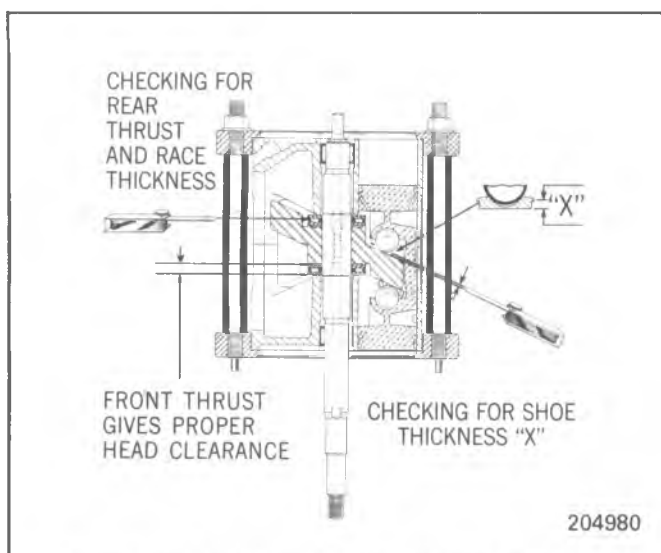

Fig. 1D-44 Checking A-6 Piston and Shaft End Play
Fifteen (15) thrust races are provided in increments of .01mm (.0005") (one-half thousandths) thickness and one ZERO gage thickness, providing a total of 16 sizes available for field service. The thrust race "number" also corresponds to the last three digits of the piece part number. See Thrust Race Size Chart in Fig. 1D-41.